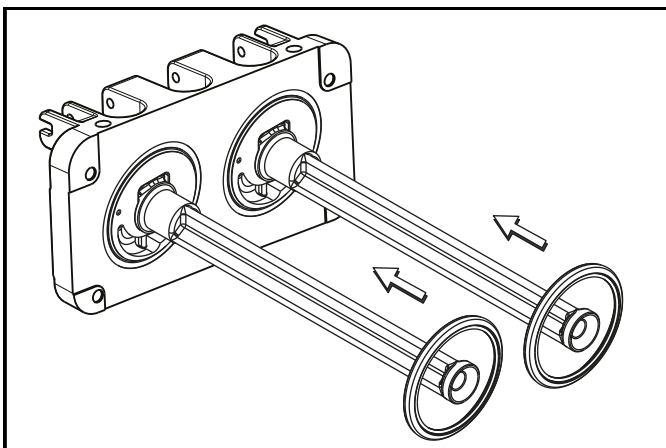

Figure 6-8
14. Install baffle by raising round end while engaging lug into door pocket. Lower round end to secure to door. Place the door gaskets into the grooves on the back of the freezer door. (See Figure 6-8.)